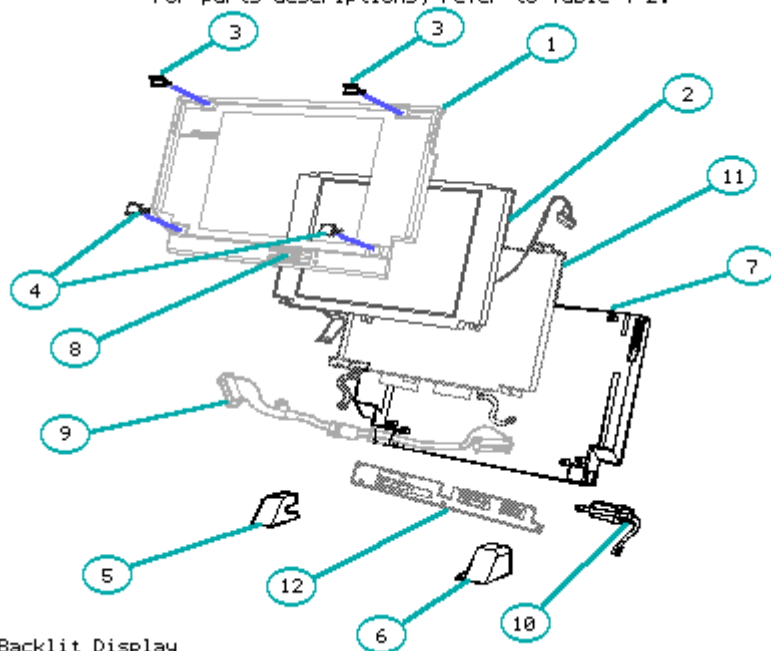

Figure 4-3. VGA Backlit Display
11. Display Shield Assembly with Ground Cables (2)	130762-001
* Not shown in Figure 4-3.